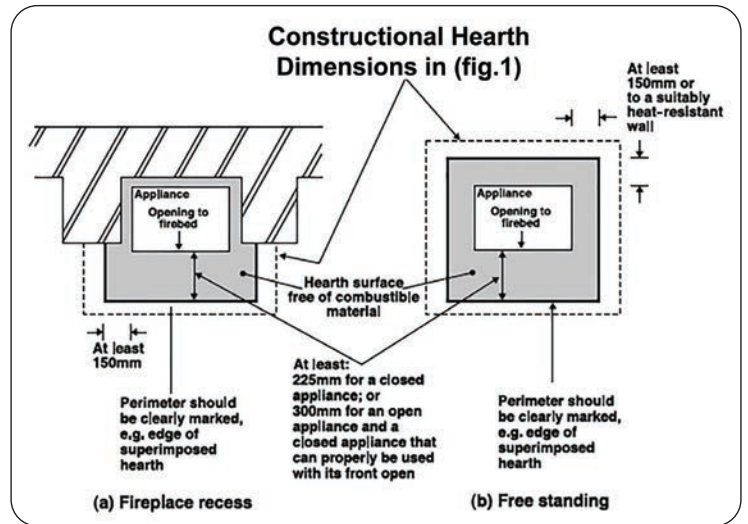

fig.2 Non Combustible Hearth surrounding Solid Fuel Appliance
**B. Constructional hearths in accordance with the guidelines outlined. (fig.2)**